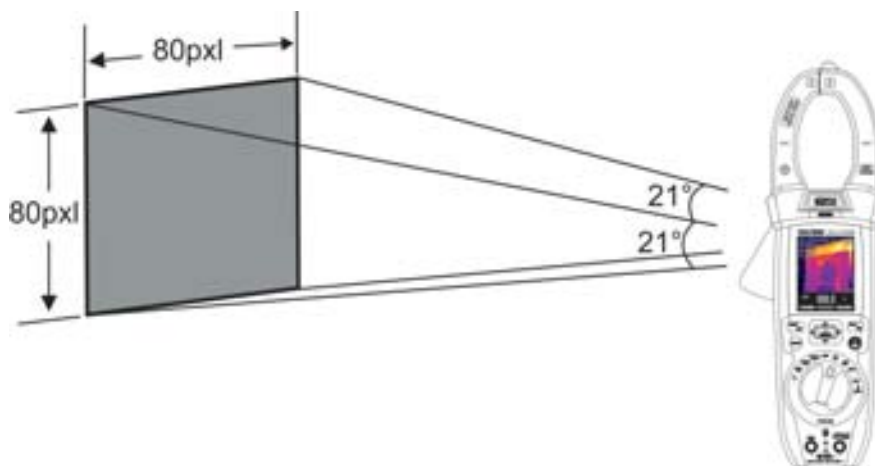

Fig. 43: Representation of the field of view (FOV) of ECLIPSE
7. For accurate temperature measurements, make sure the surface of the measured object is always bigger than the surface measurable by the instrument, which is given by the instruments field of view (FOV). ECLIPSE has a field of view of  $21^\circ \times 21^\circ$  and a detection vector of  $80 \times 80$  (6400) pxl, as described in Fig. 43